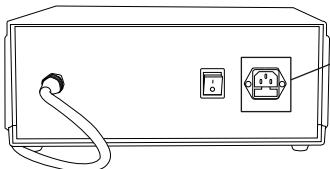

Figure 5
1. Using screwdriver, pop open fuse under plug. (See Figure 5)